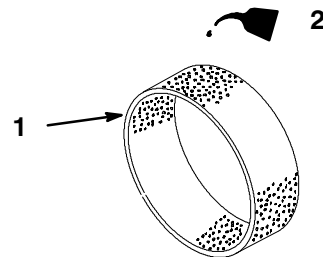

Figure 24
4. Put one or two ounces of oil on the element (Fig. 24).